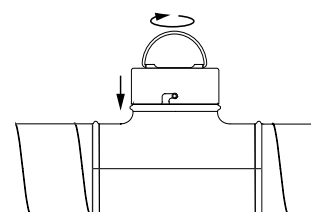

Fig. 4
6. Push the cover back onto the fitting so the rivets enter the slots (Fig 4).
7. Turn the cover clockwise to lock it into place (Fig. 4).